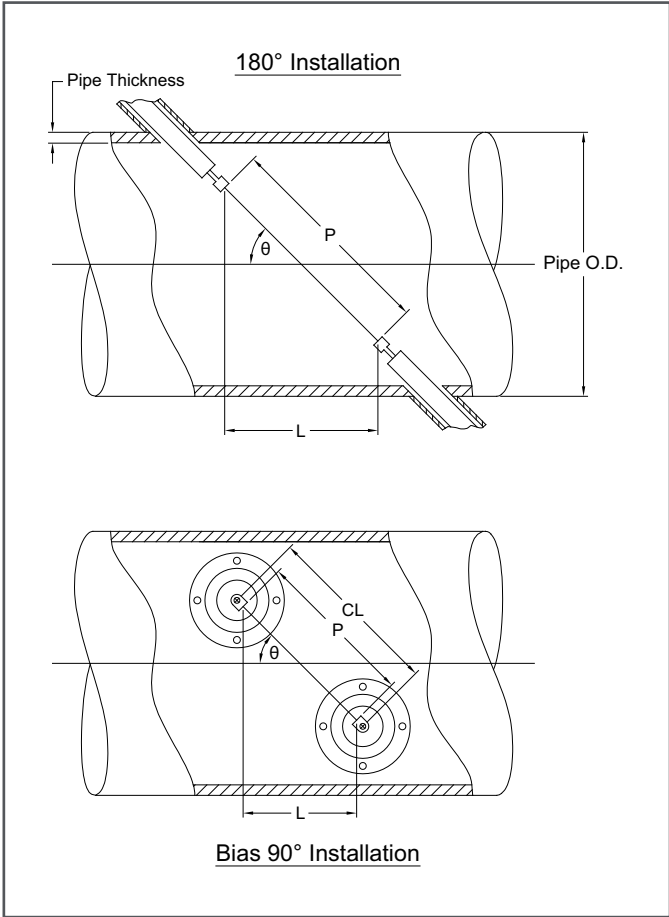

Figure 77: Top View of Typical Transducer Installations
The accuracy of the programmed P and L values is critical to precise flow rate measurements. If Panametrics supplies the flowcell for the system, the correct values will be included in the documentation supplied with the system. For transducers installed on an existing pipe (see *Figure 77*), P and L must be measured at the site. This appendix provides instructions for properly determining these dimensions.
Whenever possible, physically measure the face-to-face distance (P) and the axial distance (L) between the centers of the flat transducer faces. Refer to *Figure 77* for an illustration of the proper distances to measure.
With a bias 90° transducer installation it sometimes happens that the only known parameters are the transducer angle (θ) and the centerline distance between the transducer bodies (CL). In these cases, it is still possible to calculate P and L by combining the equation above with the additional equation below (refer to *Figure 77*).